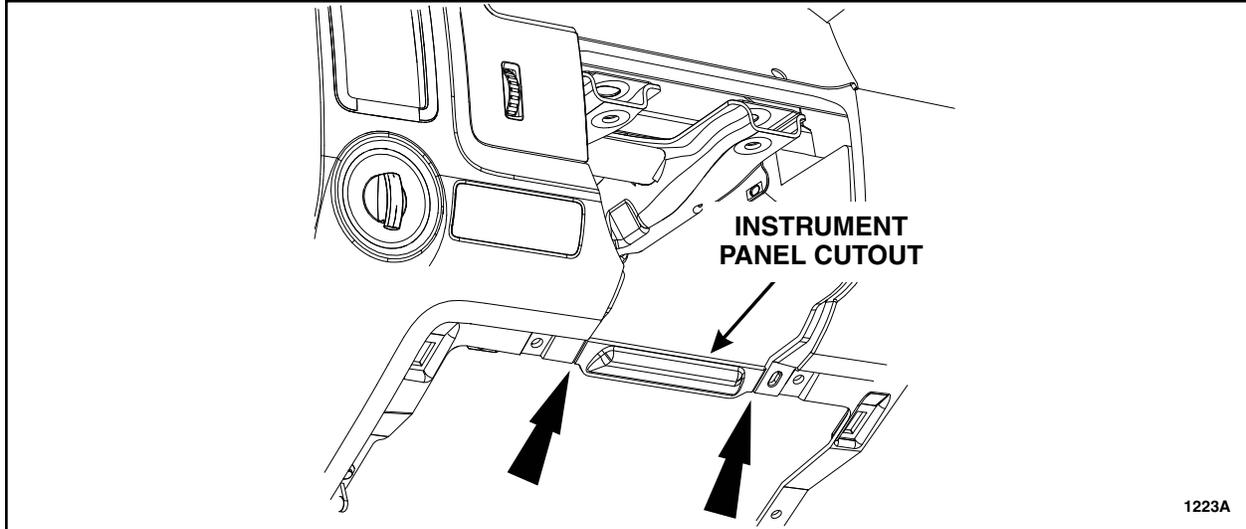

**FIGURE 1**
5. Remove the steering column opening trim. See Figure 1.